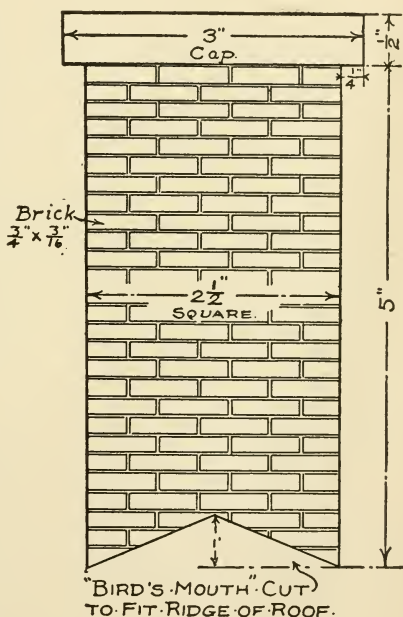

FIG. 92. — Construction of Chimneys.
**The Chimneys.** These should be made up of four pieces, two of which should have bird's-mouth cuts made in the end, as shown in Fig. 92, to make the chimney fit over the top ridge of the roof. The side edges of the pieces should be mitred and fitted together. Nail a strip of wood, half an inch wide, around the tops of the chimneys for caps. You will find it easier to